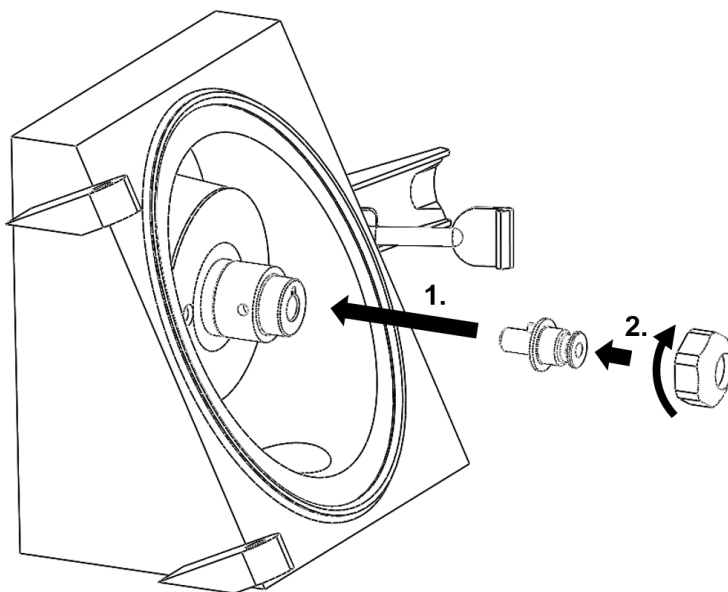

Figure 5: Installation of the plug-in source adapter.
- Mount the source adapter onto the inlet adapter. Make sure to guide the pin into the notch (see Fig. 5).
- Complete by installing the nut over the source adapter by screwing it clockwise onto the inlet adapter thread (see Fig. 5) and tighten the inlet adapter. Do NOT use tools e.g., pliers to tighten the nut and tighten it only hand tight!